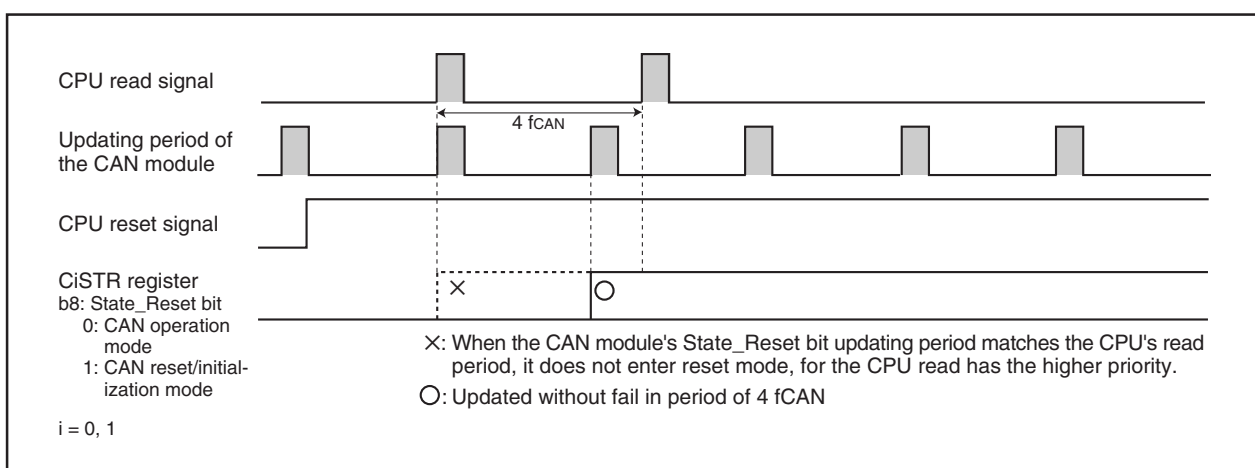

Figure 23.7 When Polling Period of CPU is 3 fCAN or Longer
- (b) When the CPU polls the CiSTR register, the polling period must be $3f_{CAN}$ or longer. (See **Figure 23.7 When Polling Period of CPU is $3f_{CAN}$ or Longer.**)